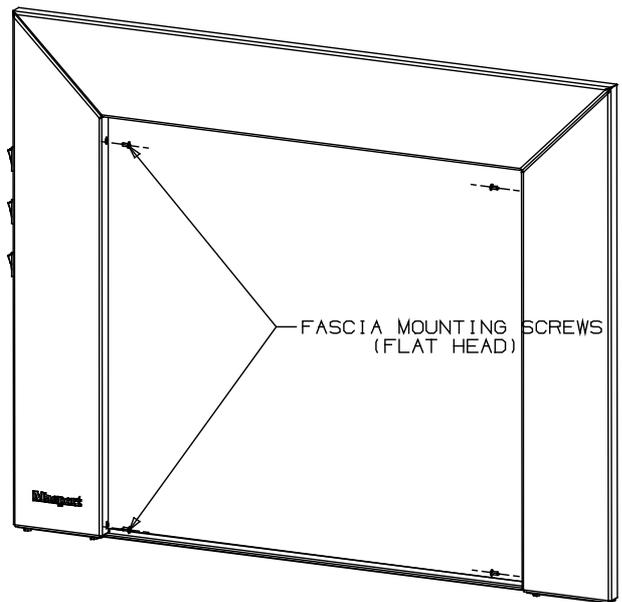

Fig 3.
9) Offer the fascia assembly up to the case once more and connect the green earth wire to the tab on the control valve then attach the fascia panels to the insert body using the 4 remaining flat head screws. See Fig 3